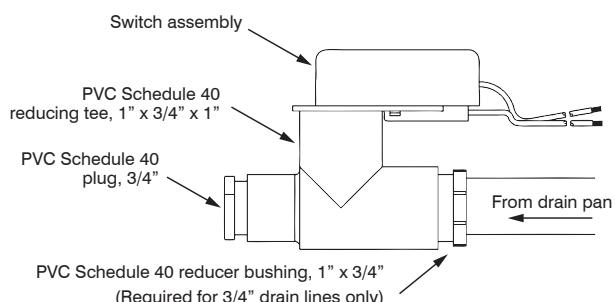

Figure 3
1. For plugged installation (see Figure 2 for item number and Figure 3 for installation):